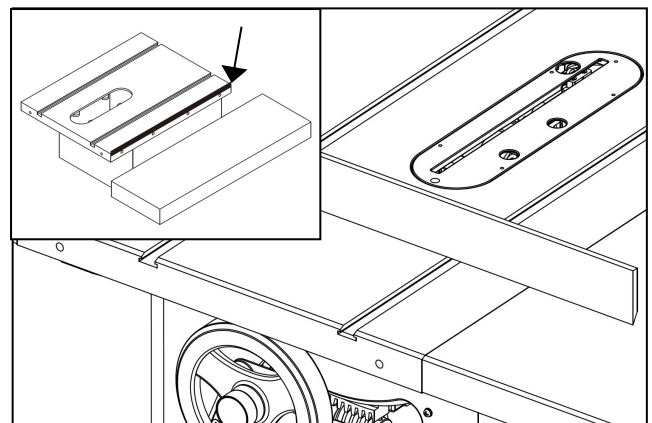

Fig.8
5.4.3 Extension wings installation (Fig.8)
4. Use a straightedge to check whether that the main table is coplanar with the extension wing. If not, use a strip of masking tape to shim the extension wing up or down, as directed by the arrow in Fig.8 .